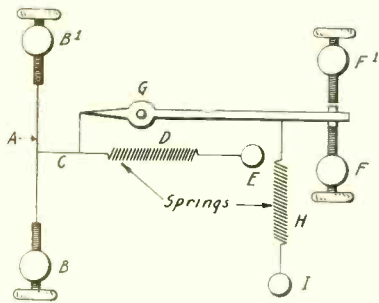

FIG. 11
This form of relay was derived from the Lord Kelvin radio frequency meter. This consists of a .005 silver wire (A) 2½" long between two adjustable posts B and B', the wire C is in this case No. 34 copper. D is a spring. E is the tension screw, F and F' contact screws, G armature, H copper wire, and I is for adjustment. See Fig. 11.